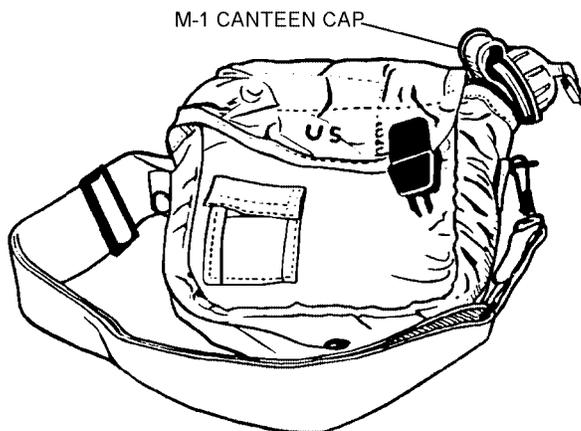

Figure 4-32. Canteen and Cover
**4-52. Canteen and Cover.** A two quart collapsible canteen (NIIN 01-118-8173) and cover (NIIN 01-118-8175), fitted with a shoulder strap (figure 4-32) is connected to the drink facility and provides drinking water to the aircrewmember to prevent dehydration. An M-1 canteen cap (NIIN 00-930-2077) shall be fitted to the canteen.